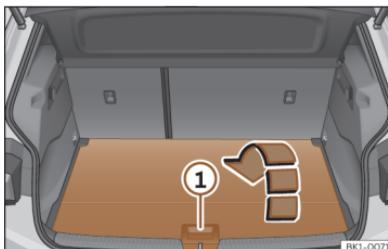

Fig. 171 In the luggage compartment:
- To open it, grasp the handle >>> **Fig. 171** ① and fold the rear of the luggage compartment floor forwards in the direction of the arrow.
- To close it, fold out the luggage compartment floor and set it down carefully >>> ①.